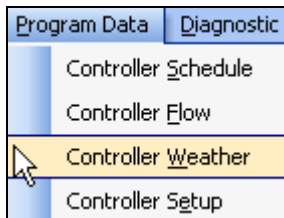

Figure 16.4.1C
1. In the toolbar at the top of the screen click on **Program Data** then scroll down to the words **Controller Weather** and click on it (Figure 16.4.1C).